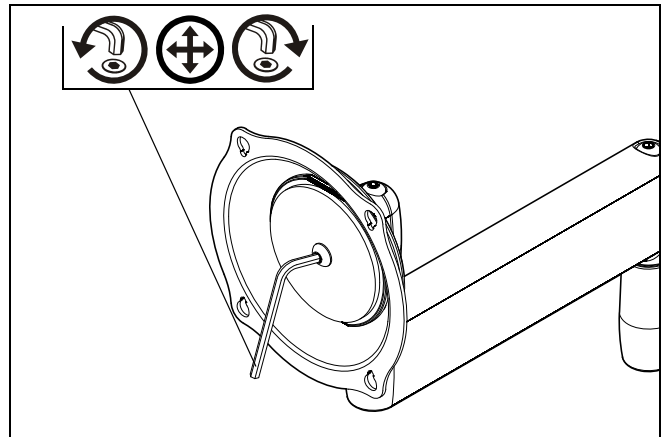

Figure 9
5. Using a hex key turn the tension adjustment screw clockwise to increase tension, or counter-clockwise to decrease tension. (See Figure 9)